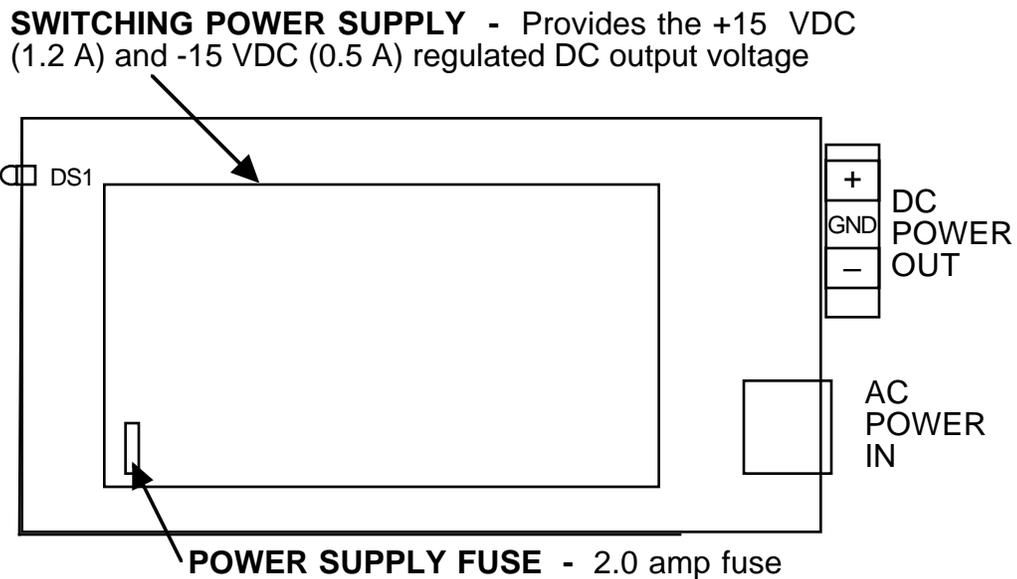

FIGURE 2.4 2000-01 On-Card AC Power Supply Fuse
2.4 **Accessing and Changing On-Card Fuse** - The **primary fuse** is in the AC connector fuse box (Figure 2.3, Section 2.5.2). Figure 2.4 shows the **secondary fuse** on the power supply.
- 3.) With **AC Power disconnected**, replace fuse with a **2.0 amp fuse** (Figure 2.4).
- 5.) Install four (4) **rear panel screws**.